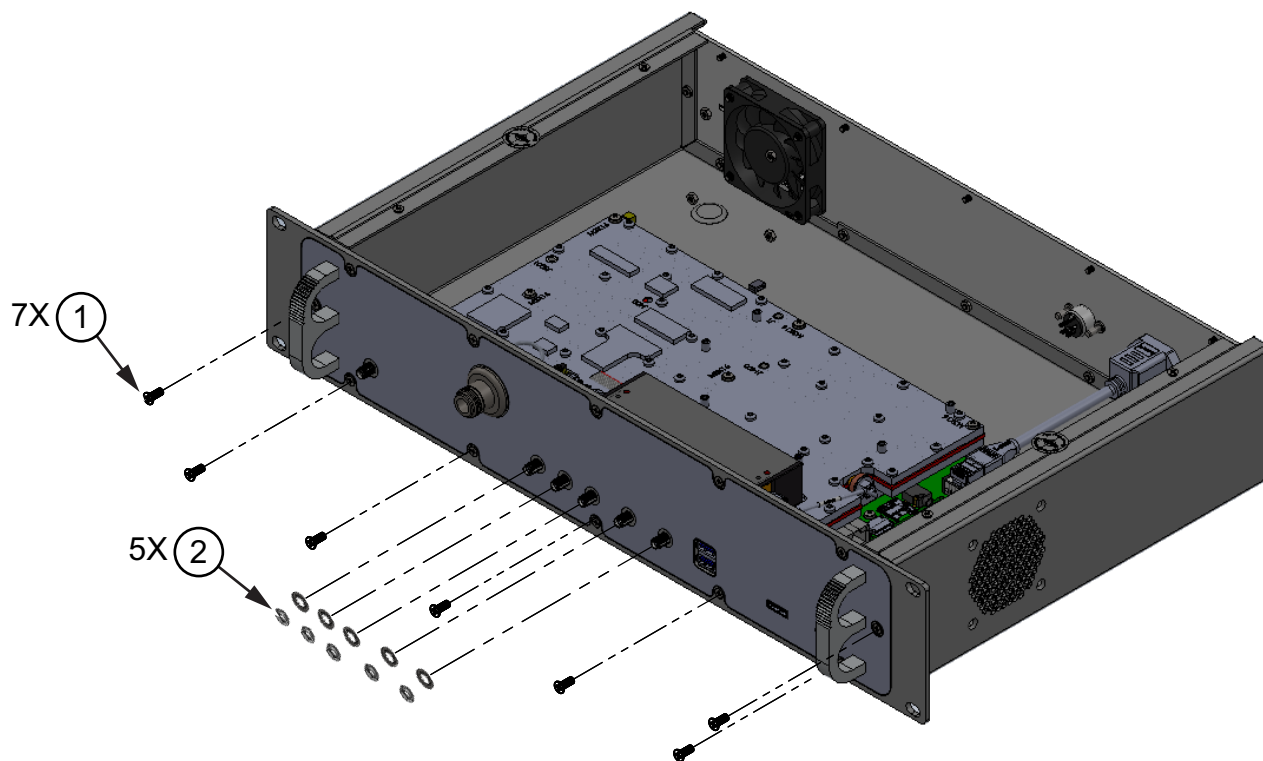

Figure 3-3. Front Panel Removal
4. Remove the seven screws securing the front panel shown at location 1. See Figure 3-3.
5. Using a 5/16" wrench, remove the five nuts and washers shown at location 2. See Figure 3-3.